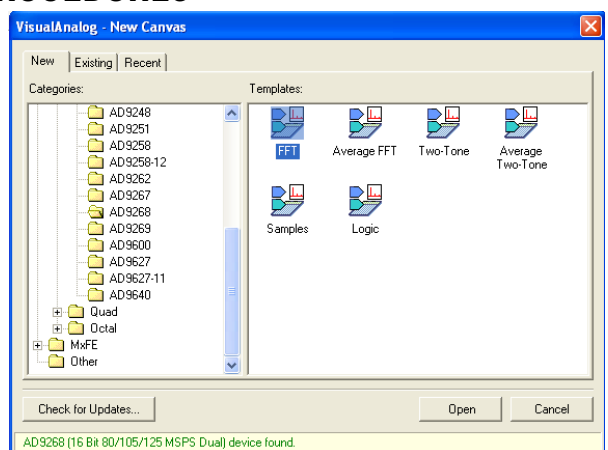

Figure 5. VisualAnalog, New Canvas Window
1. Open VisualAnalog on the connected PC. The appropriate part type should be listed in the status bar of the **VisualAnalog – New Canvas** window. Select the template that corresponds to the type of testing to be performed (see Figure 5 where the AD9268 is shown as an example).